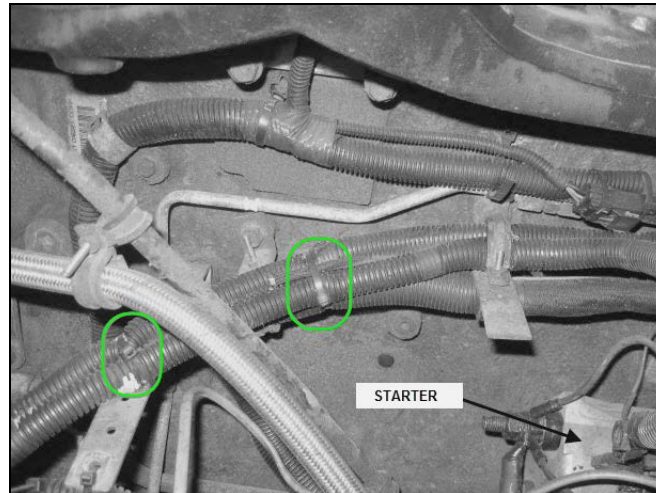

Fig.8 Power cables going to the starter motor
5. Make sure that the cables are correctly secured all the way to the starter unit. Ad cable ties as necessary (Fig.8)